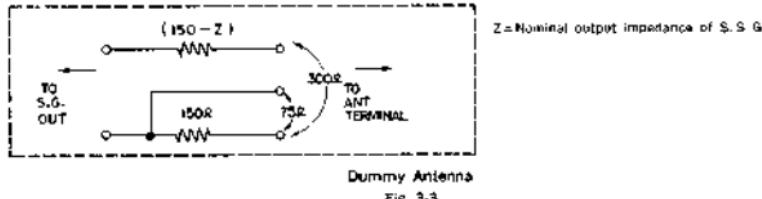

Fig. 3-3
- (4) Oscilloscope
- (5) Dummy Load
- See Fig. 3-3
- (6) Dummy Antenna
- (7) Alignment Tools